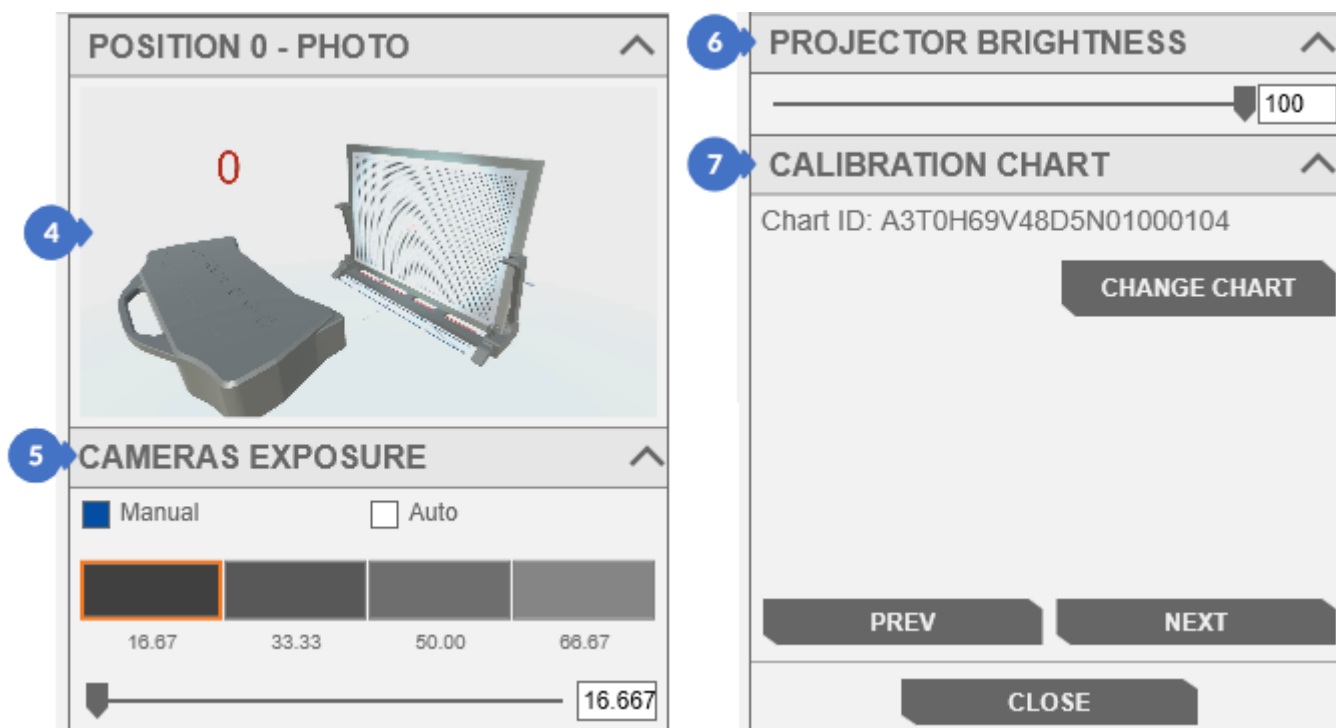
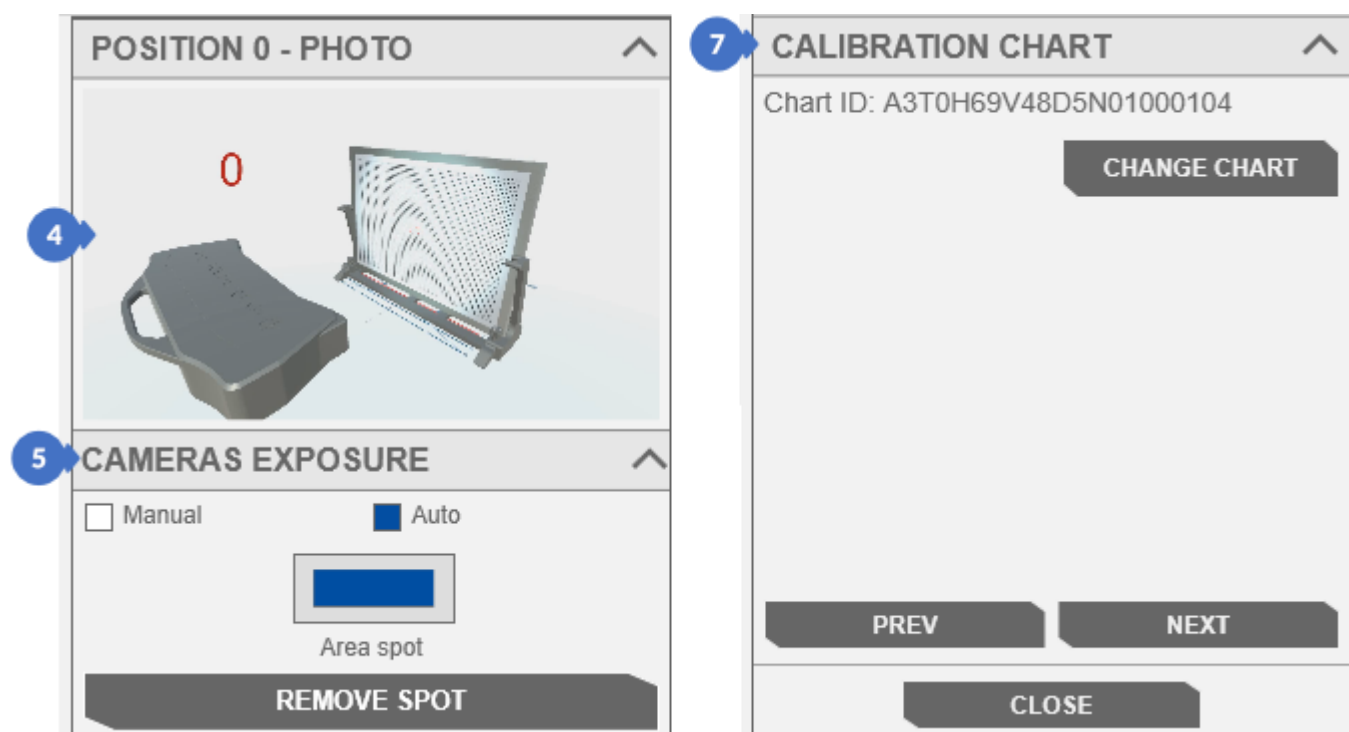

Figure 142. Taking the first calibration photo in manual mode
Figure 143. Taking the first calibration photo in automatic mode
In the fourth step of *POSITION 0 – PHOTO*, set the calibration chart to position 0 (4) and indicate the place where the exposure is to be detected (for the calibration chart, the white area with black dots visible on the camera preview) using the *Area spot* button in *CAMERAS EXPOSURE* (5) in the automatic mode (Figure 143) or select the appropriate camera exposure settings in the manual mode (Figure 142) – *CAMERAS EXPOSURE* (5) and the *PROJECTOR BRIGHTNESS* (6). (For more on exposure settings, see Section 9). Additionally, select the received calibration file intended for your calibration chart using the *CHANGE CHART* button in *CALIBRATION CHART* (7). The *NEXT* button will trigger the first calibration photo.